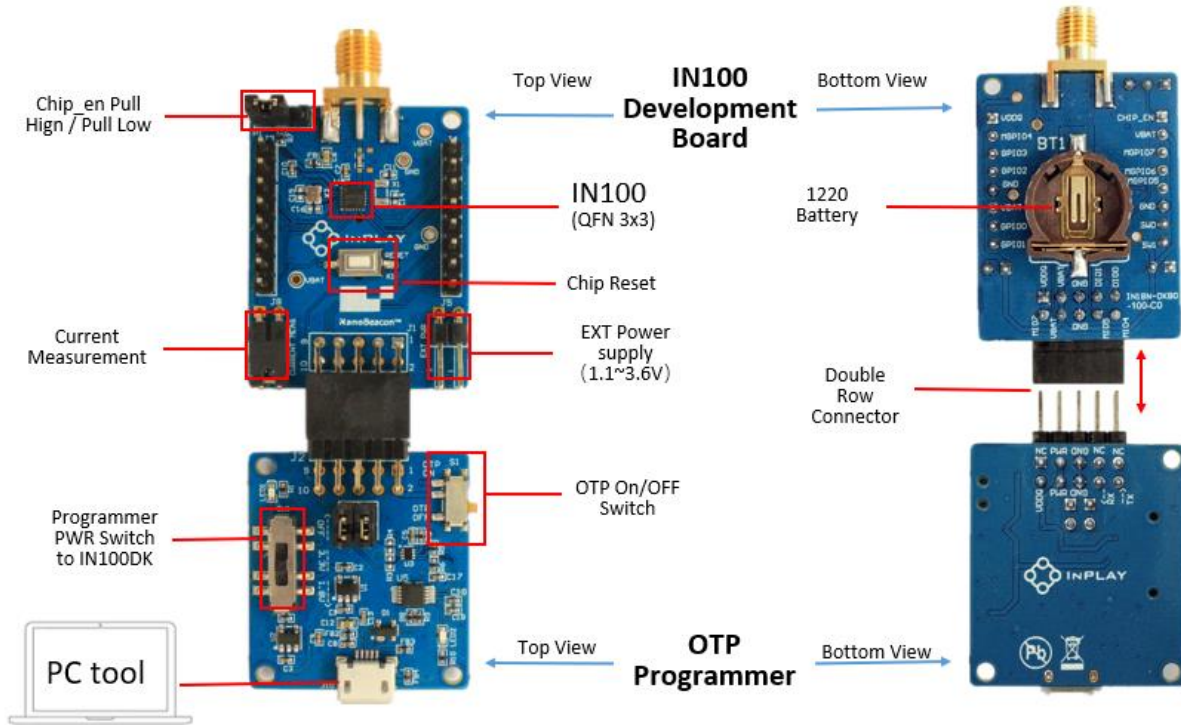

Figure 56 : Programming with NanoBeacon™ config tool
- Connect the development board and OTP programmer board as shown in Figure 56.